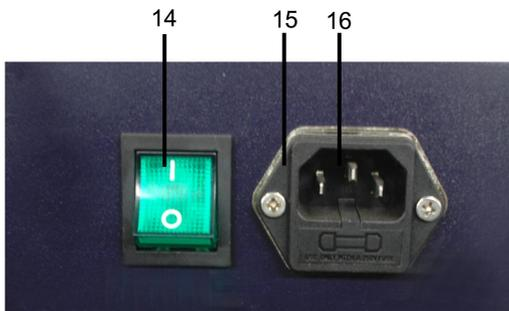

Figure 4 Back view
**According to the back view (figure 4):**